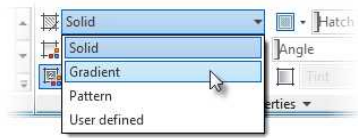

FIGURE 11.13: Using the contextual Hatch Creation tab to change the Hatch Type to Gradient
5. From the Properties panel in the Hatch Creation tab, change the Hatch Type property to Gradient (see Figure 11.13).